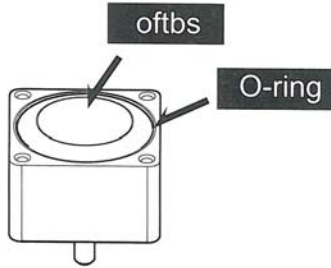

Figure 13.
1. Take off the seal cap and clean the grease on the end of the surface. (Figure 13)